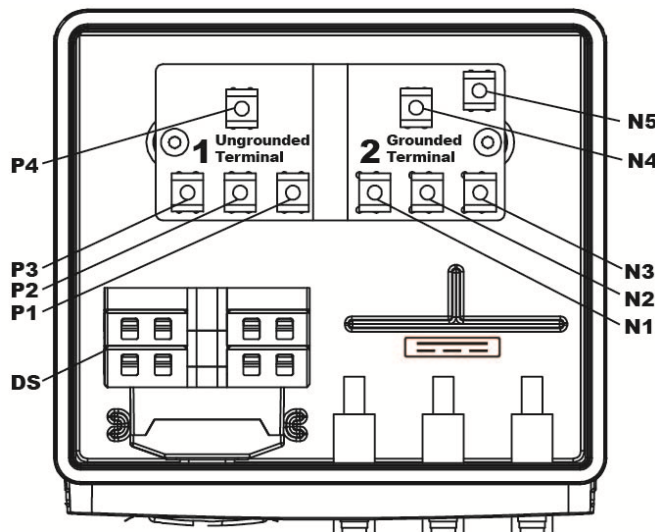

Figure 4.3.9: Stringbox with DC switch and DC connections
- Connect the grounding strap between **N5** (fig. 4.3.9) and the **DC ground receptacle** labeled **GND/PE** in the inverter lower compartment.
- Switch the conductors connected to **N4** and **P4** (fig. 4.3.9).
- Connect the grounding strap between **N5** (fig. 4.3.9) and the **DC ground receptacle** labeled **GND/PE** in inverter lower compartment.